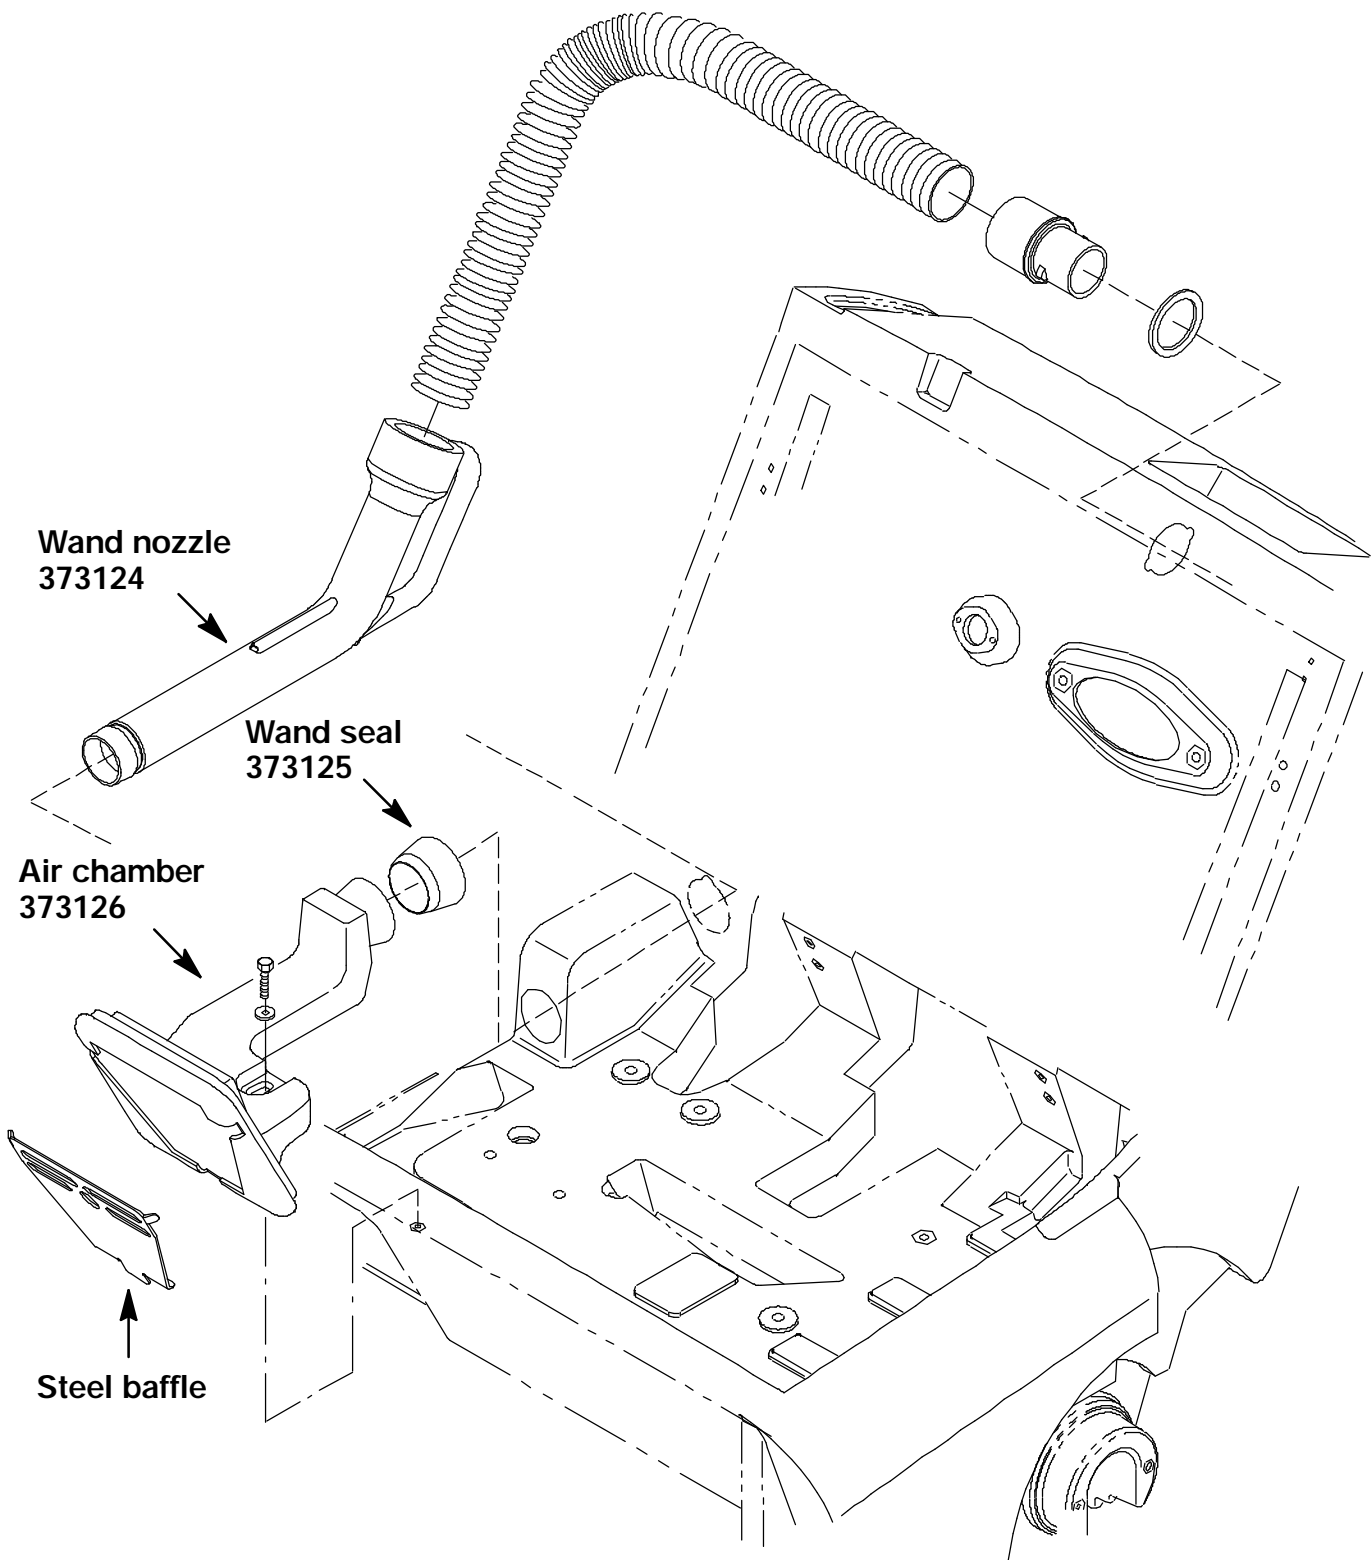

FIG. 1 - Vacuum Wand Assembly
(Refer to FIG. 1 and 2)
3. Pull the existing vacuum nozzle out of the machine. Un-screw the existing nozzle from the vacuum hose. Discard the nozzle. (Refer to FIG. 1)
4. Thread the new nozzle (3) onto the existing vacuum hose. (Refer to FIG. 1)
7. Remove the hex screw holding the existing vacuum chamber in the machine. Remove the vacuum chamber. Remove the steel baffle from the vacuum chamber. Discard the vacuum chamber. Install the steel baffle into the new vacuum chamber (1). (Refer to FIG. 1 and 2)
8. Install the new vacuum wand seal (2) on the new vacuum chamber (1). (Refer to FIG. 1 and 2)
9. Install the new vacuum chamber assembly into the machine. Reinstall the new screw and tighten. (Refer to FIG. 1)
10. Position the new nozzle (3) into the new seal (2) and vacuum chamber (1). (Refer to FIG. 1)